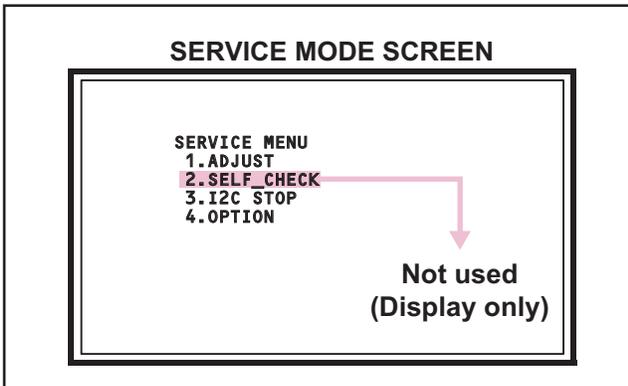

Fig.1
- (1) Press [INFORMATION] key and [MUTING] key on the remote control unit simultaneously to enter the SERVICE MODE SCREEN. (Fig.1)